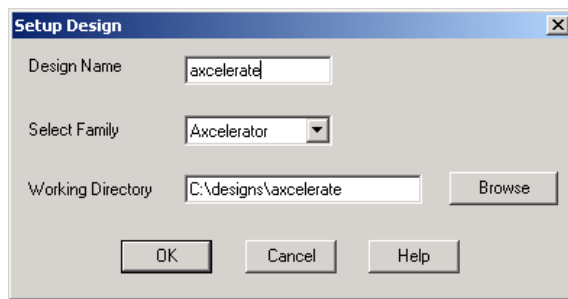

Figure 2-2. Setup Design Dialog Box
1. Click the **Start New Design** button in the main window, or in the **File** menu, click **New**. This displays the Setup Design dialog box, as shown in Figure 2-2.